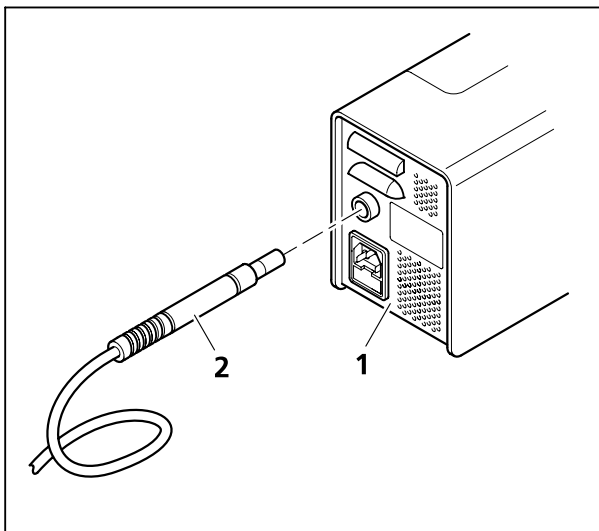

Fig. 25 Connecting the optical fiber to the X-Cite illuminator
- Plug the other end of the optical fiber (Fig. 25/2) as far as it will go into the X-Cite illuminator (Fig. 25/1).